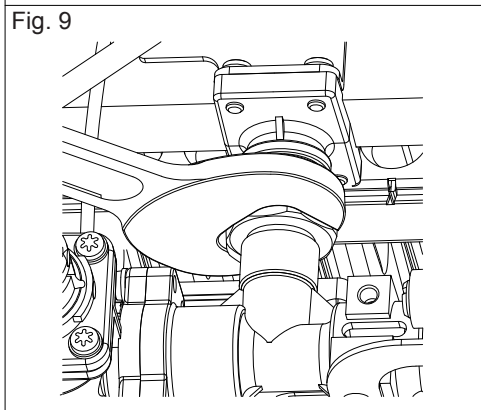

Fig. 9
- Remove the nut that holds the burner in place (fig. 9)